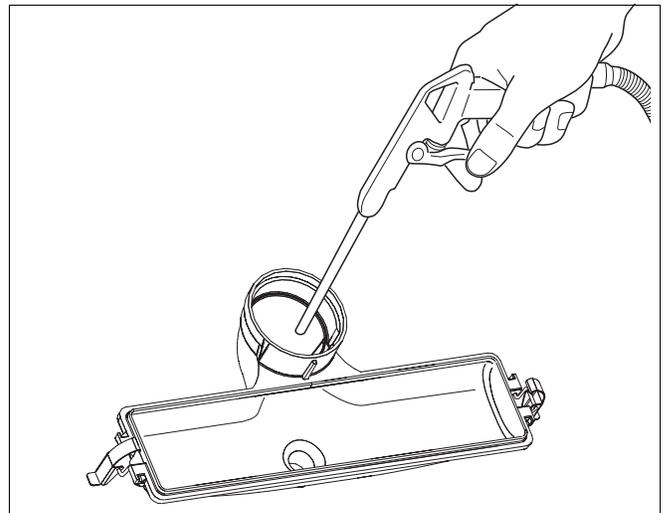

Fig. 93 Cleaning the condensate collector
- Clean the condensate collector mechanically (using compressed air or a soft brush) and rinse it with clean water (fig. 93).